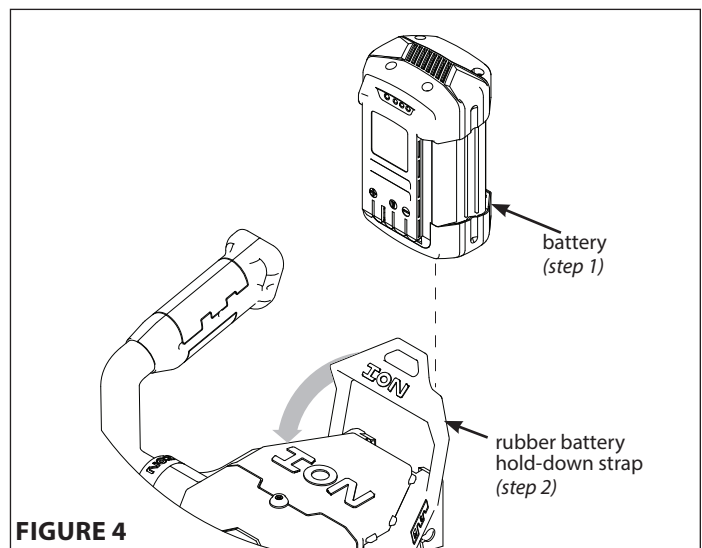

FIGURE 4
1. Remove the rubber battery hold-down strap by pulling it towards the motor. **SEE FIGURE 4**